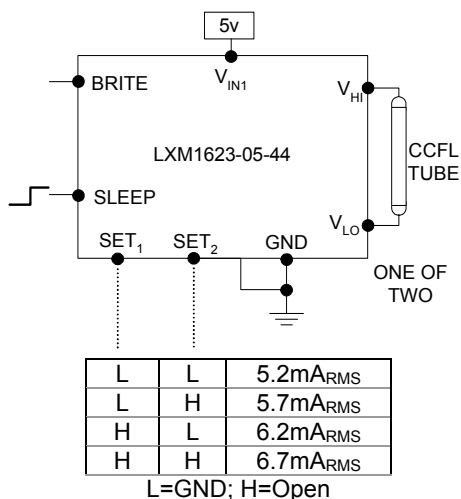

Figure 2 – Max Output Current
- Use the SET₁ and SET₂ (see Figure 2) inputs to select the desired maximum output current. Using these two pins in combination allows the inverter to match a wide variety of panels from different manufactures. Generally, the best lamp lifetime correlates with driving the CCFL at the manufactures nominal current setting. However, the SET₁ and SET₂ inputs allow the user the flexibility to adjust the current to the maximum allowable output current to increase panel brightness at the expense of some reduced lamp life.